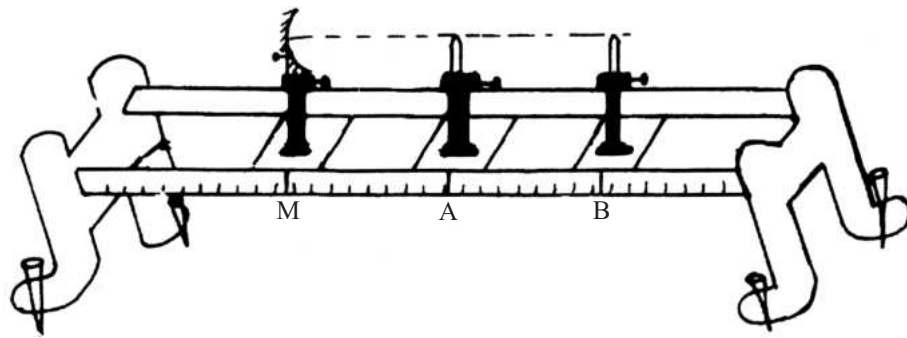

Fig 13.1: Experimental set-up
- (iv) Fix the mirror in mirror-holder and **adjust the tips of the pins so that they are in the same horizontal line as the pole of the mirror** (See Fig. 13.1).